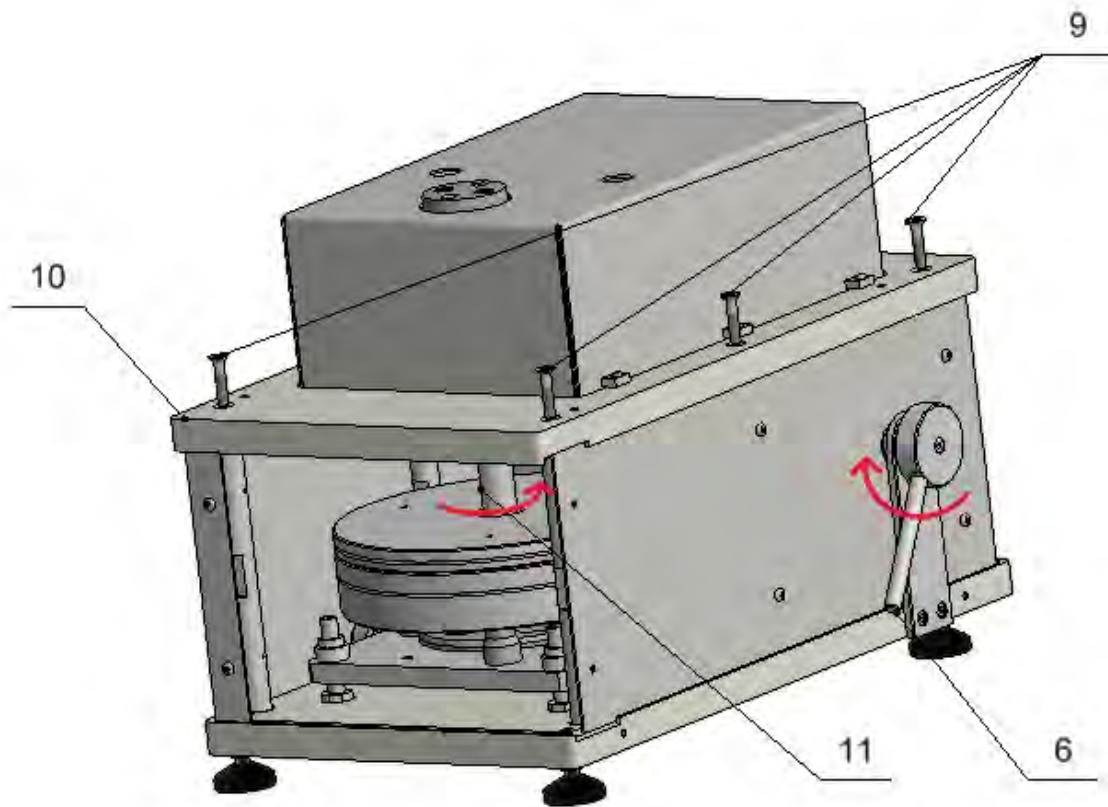
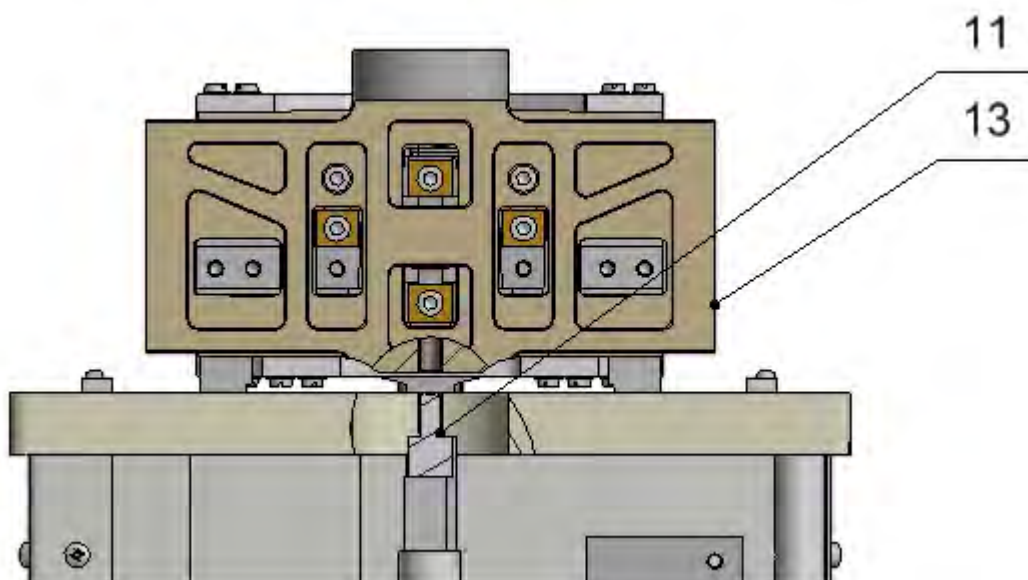

Fig.5
Fig.6
9. Use six M6 screws (9) to fix the lid (10).
10. Fix the weighing pan connecting member (11): in a stepwise manner rotate the lever (6) (so that the weighing pan from being maximally loaded turned to its contrary position) thus fixing connecting member (11) to a vertical rocker (13). (Fig. 5 and Fig.6)